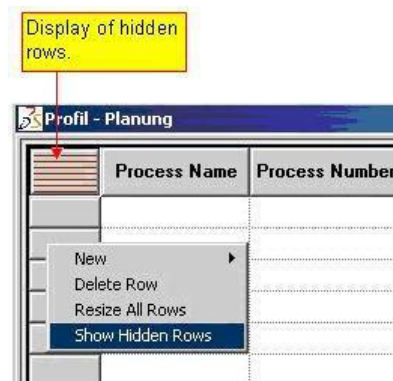

Figure 108: Showing Hidden Rows Again
- 9) Hidden rows can be shown again with the help of **Show Hidden Rows**. Please refer to the Figure 108.